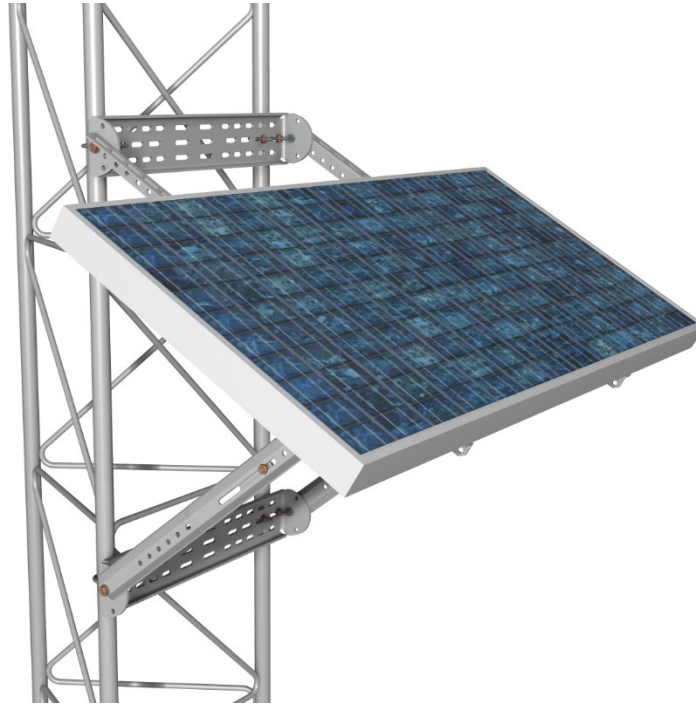

FIGURE 3-14. Extended mount tower installation
- (Mounting on towers only.) With the help of a second person, secure the top bracket at the desired height on the tower using U-bolts, washers, lock washers, and nuts (FIGURE 3-14 (p. 13)). Raise the lower bracket until the angle decal on the upper bracket indicates the correct angle for the current latitude. Secure the lower bracket to the tower with U-bolts, washers, lock washers, and nuts. Fully tighten all nuts and bolts.